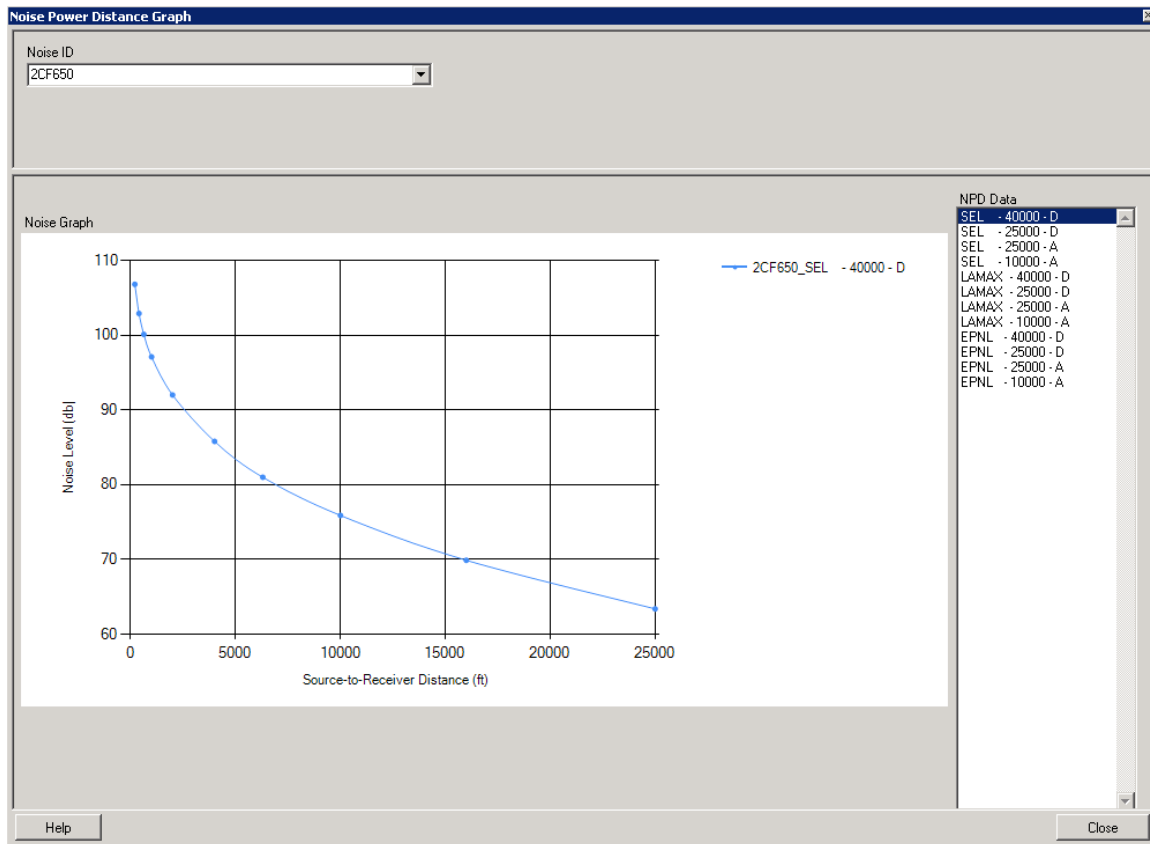

Figure 8-3 Noise Power Distance Graph Dialog Box
1. From the menu bar select *Results, Noise Graph*. The *Noise Power Distance Graph* dialog box will open (Figure 8-3).